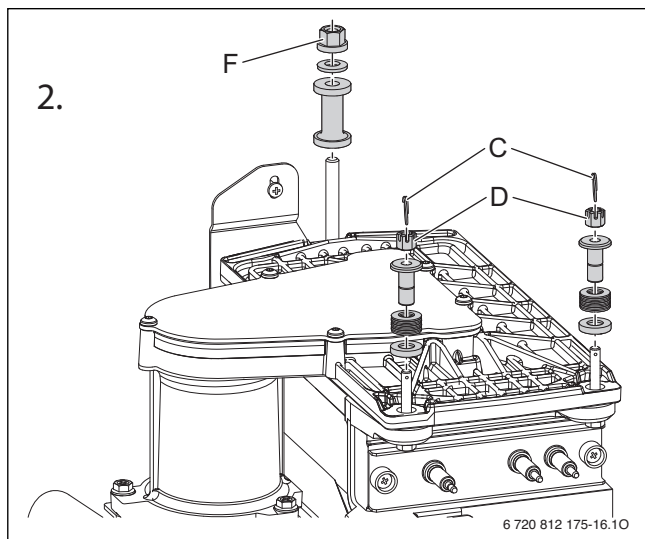

Fig. 63 Burner cover securing detail
- Re-assemble the burner in the reverse order using a new seal (K)
- Assemble the washer, spring, spacer and castellated nut (D), refer to figure 63, onto the screws securing the burner cover to the heat exchanger.
- Using a 10mm spanner, tighten the castellated nuts (D), securing the burner cover (G) to the heat exchanger, until the spacers "bottom out" on the heat exchanger body. The nut will stop turning at this point, do not overtighten.
- If necessary, back the nuts off slightly until the hole for the clip (C) is visible
- Insert the clips (C) and secure